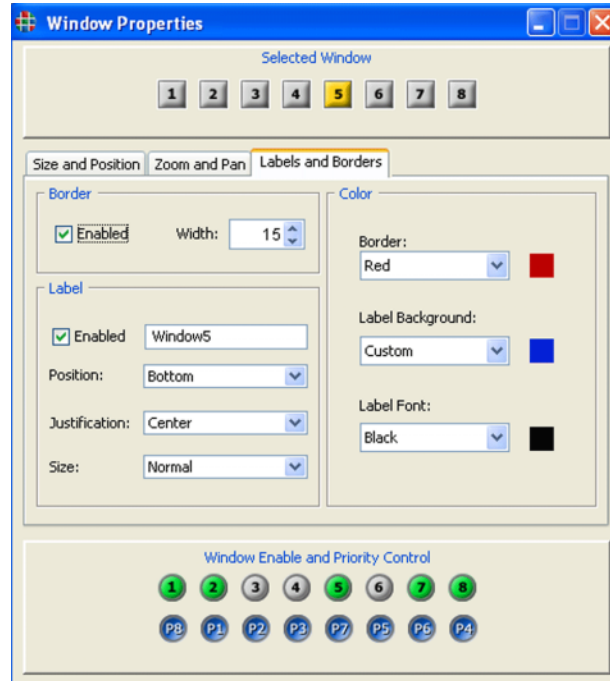

Figure 3-9. WCP Labels and Borders page
- Select the **Window Label and Borders** tab (Figure 3-9)
- Select the **Window Label and Borders** tab (Figure 3-9).